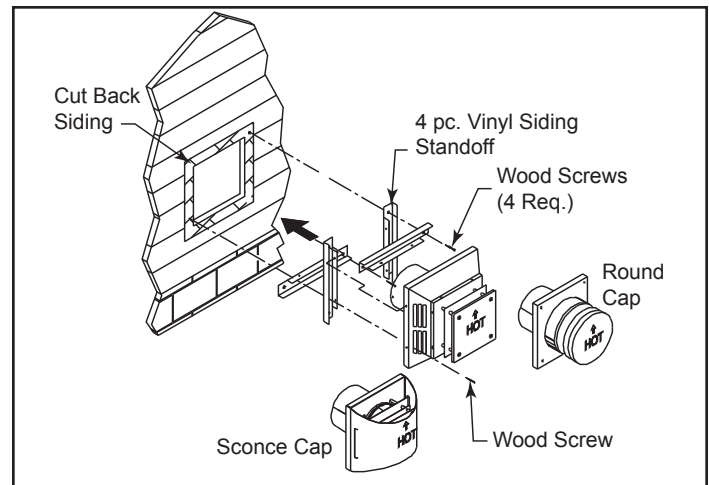
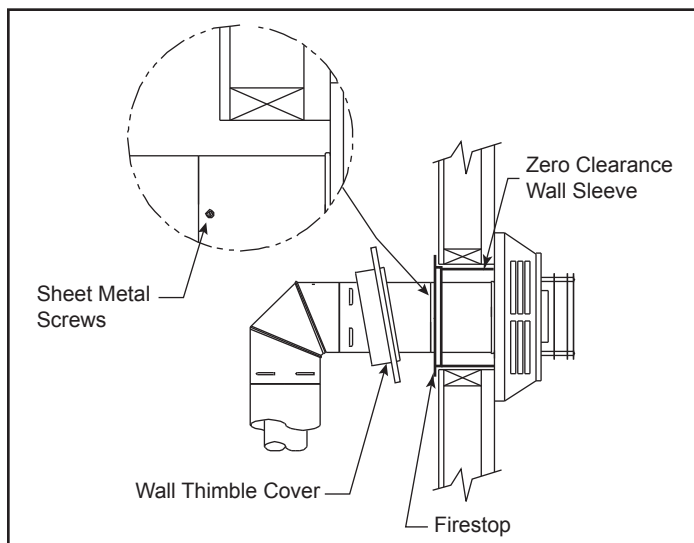

Figure 28
Figure 29
prevents excessive heat from possibly melting the vinyl siding material. Vinyl siding standoffs are not required with snorkels. For vinyl wall installations a 4-piece vinyl siding standoff should be assembled and installed between the horizontal termination cap and the exterior wall, Figure 28. The vinyl should be cut away to the outer edges of the assembled standoff.
IMPORTANT: You must attach the four (4) pieces of the new vinyl siding standoff to the horizontal termination cap in specific order to ensure a weather tight fit. Loosely assemble the four parts, in order, around the base of the horizontal termination cap. Place the first of four pieces along the upper edge of the cap, then using two (2) screws per side, secure each piece to the pre-drilled holes along both sides of the cap, finally, attach the final piece to the bottom edge of the cap. Tighten all screws and mount cap, with all four (4) pieces attached, directly onto the wall with the four (4) 2-1/2" (64 mm) screws provided, Figure 28.
3. When penetrating through stucco wall, install the counter flashing. The counter flashing allows stucco, or other materials, to be finished directly to the sides of the termination cap. First attach the counter flashing to the base of the horizontal termination cap with the small screws provided, then mount entire assembly onto the wall with the four (4) 2-1/2" (64 mm) wood screws provided.
Step 5 - Before connecting your horizontal pipe sections to the horizontal termination cap, slide the wall thimble cover over the pipe section nearest the interior side of wall, Figure 29.
Step 6 - Slide the appliance and vent assembly towards the wall, carefully inserting the pipe section into the cap assembly. It is important the pipe section extends into the back of the termination cap with a minimum overlap of 1-1/4" (32 mm). Use the two (2) sheet metal screws provided to secure the pipe section to the back of the termination cap. The wall thimble cover will cover the screw heads, Figure 29.